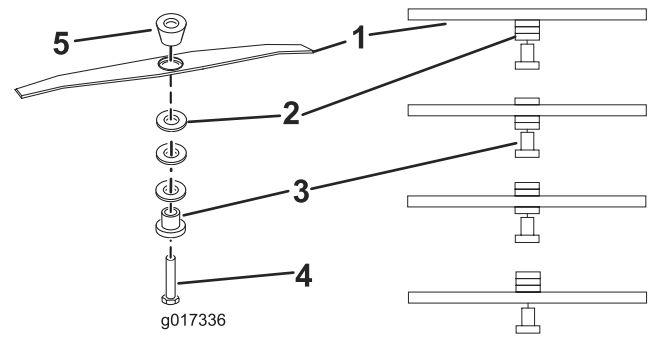

Figure 13
- Reposition the spacers to the desired height, then reinstall the cutterbar (Figure 13).